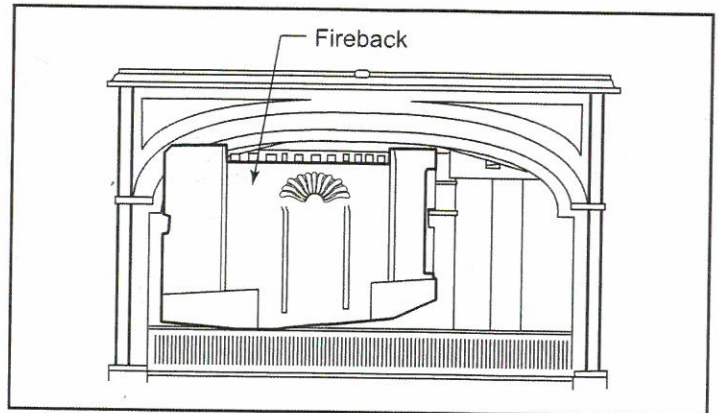

Figure 3 - Lift out the Lower Fireback
5. Remove the lower fireback by pulling the upper edge toward the front of the stove. Then lift it and angle it out of the stove through the front door. Scoop out any ashes in the bottom groove where the lower edge of the lower fireback sits. Inspect the gasket on the back of the fireback and replace if damaged. Figure 3.